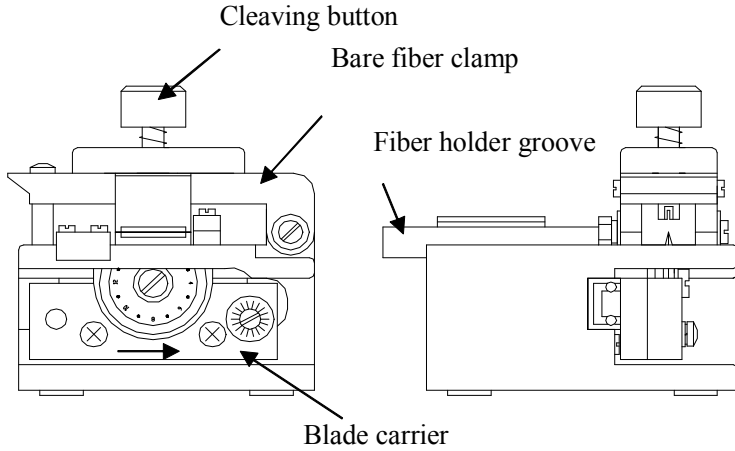

Figure H-1
H.2 Operation(Refer to Figure H-1)